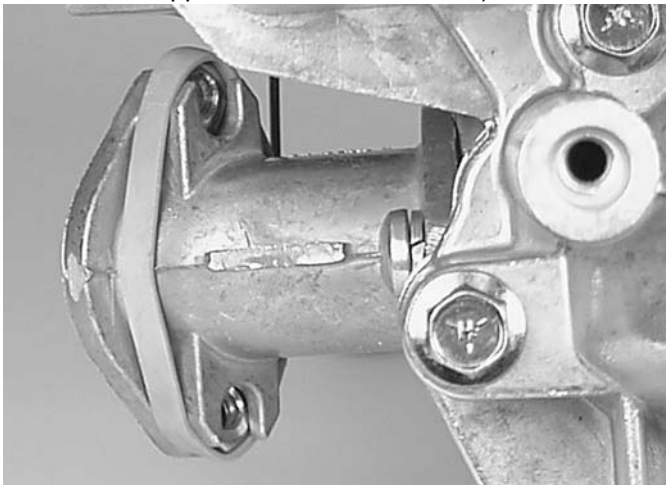

Fig. 79
1. Install intake manifold with new gasket (Figure 79). Torque screws to **60 lb-in. (7.0 Nm)**.